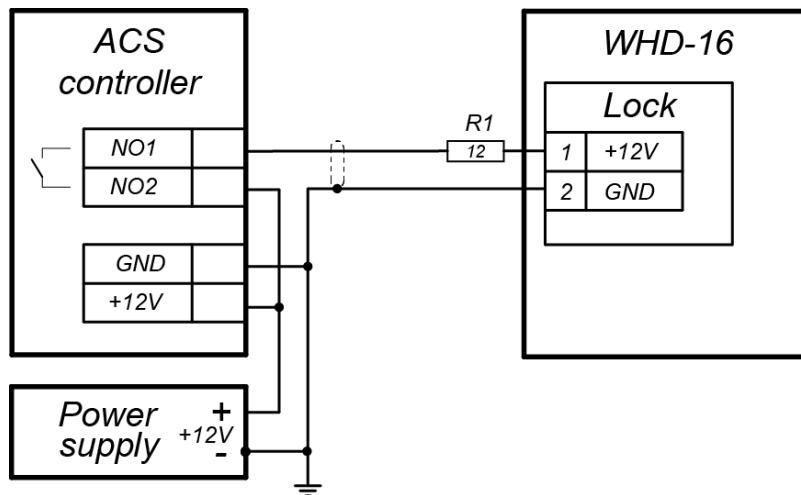

Figure 4. Recommended connection layout of the lock
6. When using a gate in the ACS, connect the power supply and ACS-controller to the electromechanical lock of the gate (see Figure 4). It is recommended to use a power supply with a voltage of 12V / 3A (DC or AC).
The duration of the control signal from the ACS-controller must be at least 0.5, but not more than 1 second. A longer control signal can cause the lock malfunction. To reduce the probability of lock failure, it is recommended to limiting the current in the power supply circuit of the lock – install a resistor R1 (12 Ohm / 10 W, Figure 4).